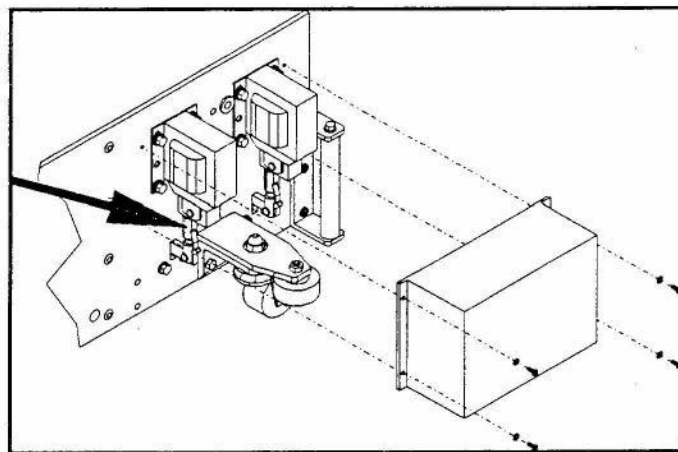

Figure 19
4. To adjust the vacuum head pressure on the GEMINI® run the GEMINI® down the lane to approximately 30 feet from the foul line. The vacuum switch must be on and the vacuum head must be engaged against the lane. Shut the GEMINI® off by moving the shut off arm forward. Remove the drive motor fuse. Start the GEMINI® by pressing the start button. Push the GEMINI® forward at least five to six inches to be sure that the squeegee is deflected against the lane! Observe the deflection of the vacuum head squeegee against the lane. The squeegee must be deflected against the lane by the minimum amount to pick up all the liquid off the lane. If more or less pressure is needed, simply turn the adjusting turnbuckle on the appropriate machine side until the desired deflection and pick up ability is achieved. See Figure 19.